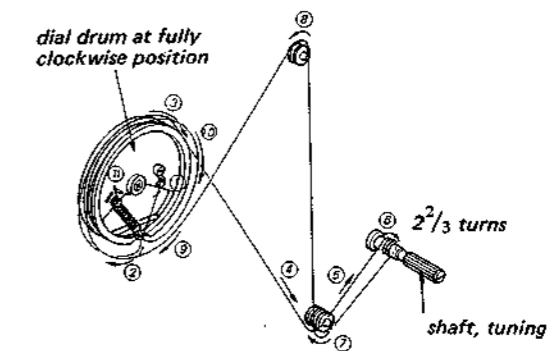

Fig. 2-7.
2. String the dial cord in the numerical order shown in Fig. 2-7 below.